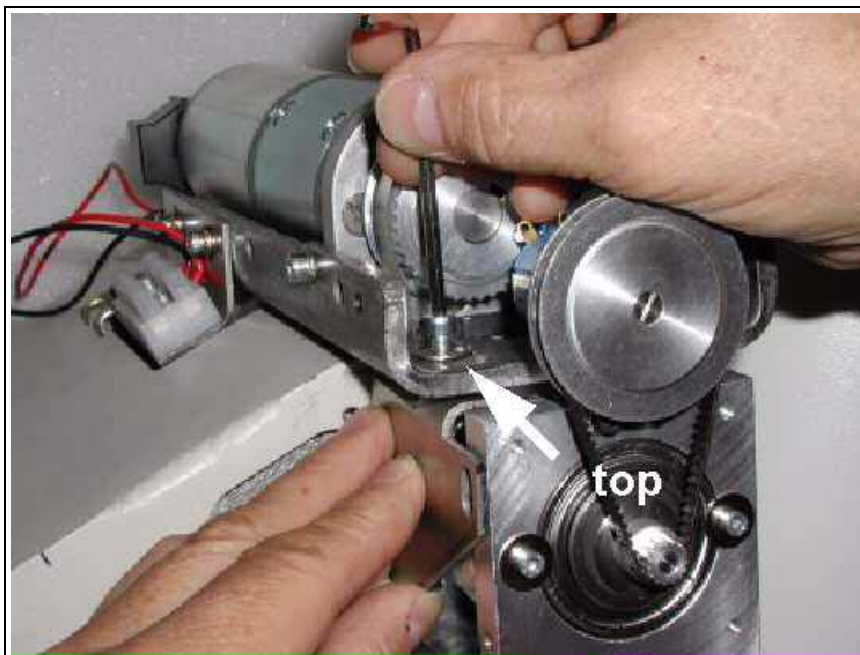
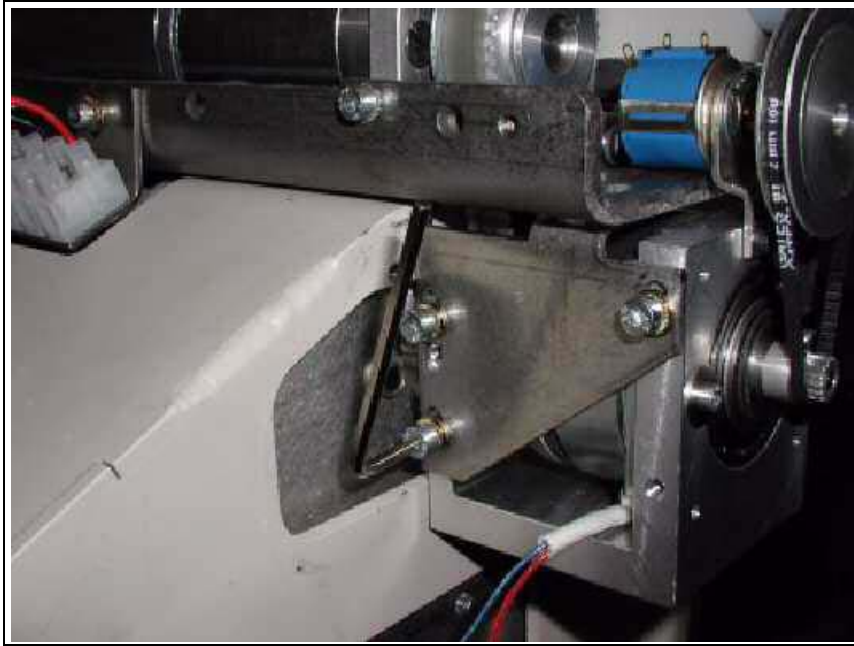

Fig. 30: Lateral bracket
Fig. 31: Lateral bracket_1
- Attach lateral brackets (Fig. 30 / p. 34) on both sides (Fig. 31 / p. 35), first on top and then on the side; use big washers.